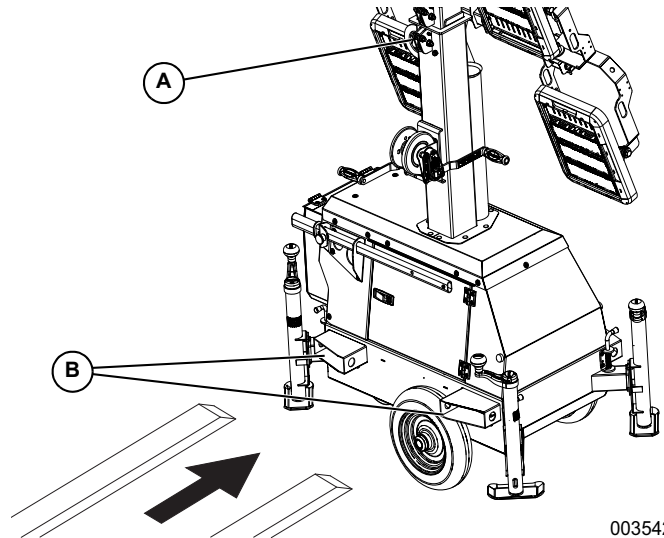

Figure 2-6. Lifting The Unit
5. See **Figure 2-6**. To lift the unit, use one of the following methods:
- Attach slings, chains or hooks directly to the unit lifting point (A). Verify the LED fixtures will not be damaged when lifting.
- Use a forklift. Approach the forklift pockets (B) only from the side as shown. Avoid approaching the unit at an angle, as this can permanently damage the forklift pockets, wheels, or cabinet. Make sure any obstructions are clear of the forklift tines before lifting.
See Figure 2-6. Tie-down straps, ropes, or chains may be passed through the forklift pockets (B). The holes in the forklift pockets may also be used to secure the unit for transport.